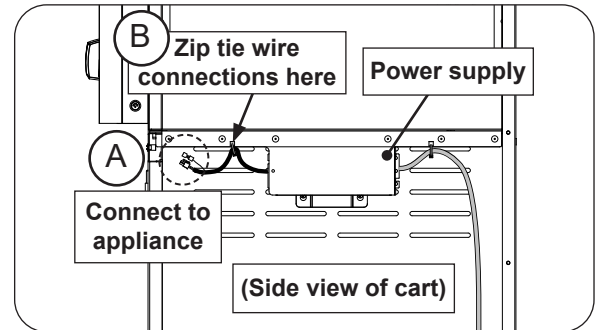

Fig. 11-1 Zip tie electrical connections
4. Connect the appliance wire harness to the power supply through the cabinet doors. See Fig. 11-1, A.
5. Install a provided zip tie as shown in Fig. 11-1,B to keep the electrical connections securely in place.